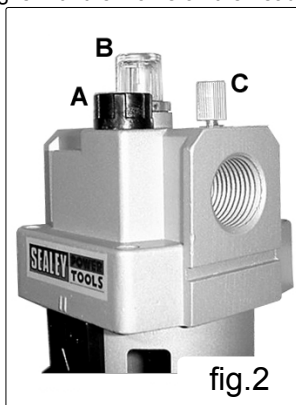

fig.2
- 5.3. Lubricator - Remove the filler plug (fig.2.A) and fill bowl up to max. level, with air tool oil. This can be done with the air line pressurised. With air flowing through the lubricator the oil delivery rate can be adjusted by screw (fig.2.C) whilst watching the drip rate through the sight dome (fig.2.B). The oil delivery rate will automatically increase or decrease in line with the air flow.